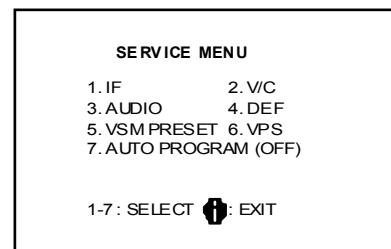
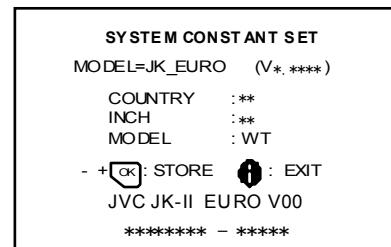

Fig.1
Fig.2
(1) Power off	Switch the power off and unplug the power cord from the outlet.
(2) Replace ICs.	Be sure to use memory ICs written with the initial data values.
(3) Power on	Plug the power cord into the outlet and switch the power on.
(4) Check and set SYSTEM CONSTANT SET:	<ul style="list-style-type: none"> * It must not adjust without signal. <ol style="list-style-type: none"> 1) Press the INFORMATION key and the MUTING key of the REMOTE CONTROL UNIT simultaneously. 2) The SERVICE MENU screen of Fig. 1 will be displayed. 3) While the SERVICE MENU is displayed, press the INFORMATION key and MUTING key simultaneously, and the SYSTEM CONSTANT SET screen of Fig. 2 will be displayed. 4) Check the setting values of the SYSTEM CONSTANT SET of Table 1. If the value is different, select the setting item with the FUNCTION UP/DOWN key, and set the correct value with the FUNCTION -/+ key. 5) Press the MENU key to memorize the setting value. 6) Press the INFORMATION key twice, and return to the normal screen.
(5) Setting of receive channels	<p>Set the receive channel. For setting, refer to the OPERATING INSTRUCTIONS.</p>
(6) User settings	<p>Check the user setting values of Table 2, and if setting value is different, set the correct value. For setting, refer to the OPERATING INSTRUCTIONS.</p>
(7) Setting of SERVICE MENU	<p>Verify the setting items of the SERVICE MENU of Table 3, and reset where necessary. For setting, refer to the SERVICE ADJUSTMENTS.</p>